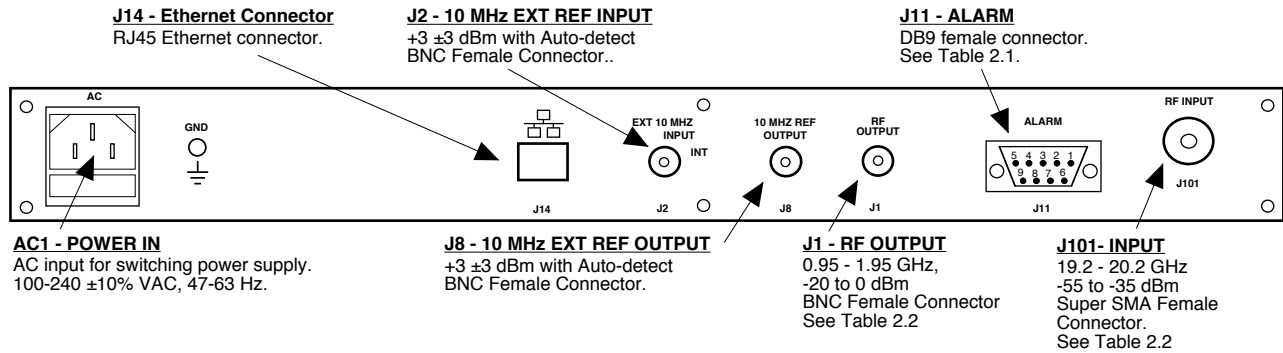

FIGURE 2.1 3116-192 Rear Panel I/O's
Figure 2.1 shows the input and output connectors on the rear panel.
1. Connect a -55 dBm to -35 dBm signal to RF IN, J101 (Figure 2.1).